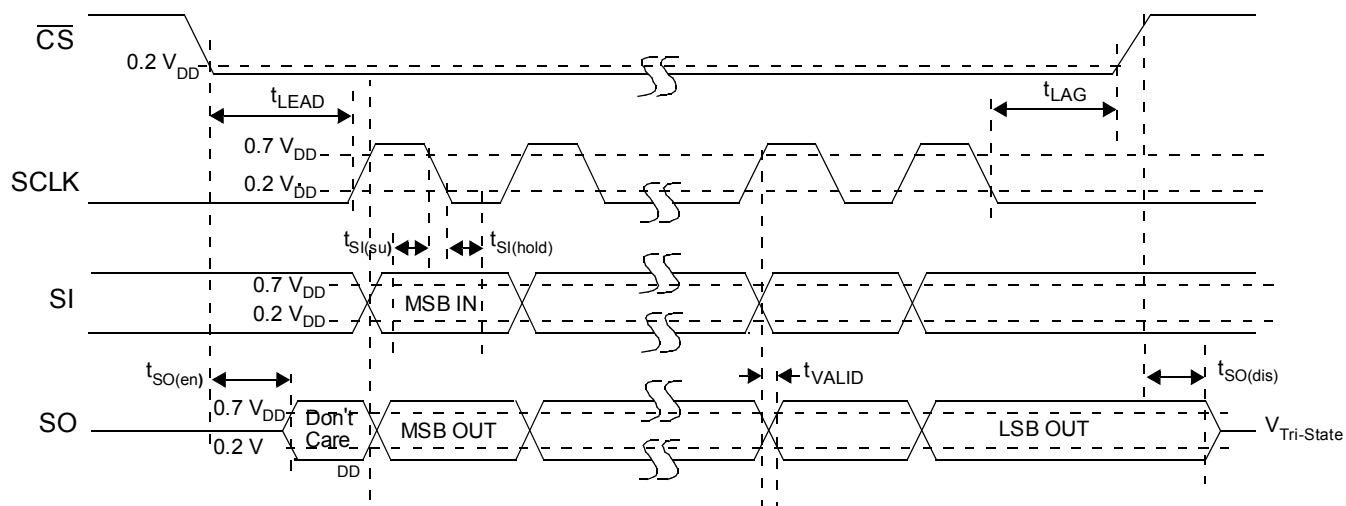

Figure 4. SPI Timing Characteristics
The Serial Input (SI) pin is used to enter one of seven serial instructions into the 33999. SI SPI bits are latched into the Input Shift register on each falling edge of SCLK. The Shift register is full after 24 bits of information are entered. The 33999 operates on the command word on the rising edge of $\overline{CS}$. To preserve data integrity, exercise care to not transition SI as the SCLK transitions from high-to-low state (see Figure 4, page 9).